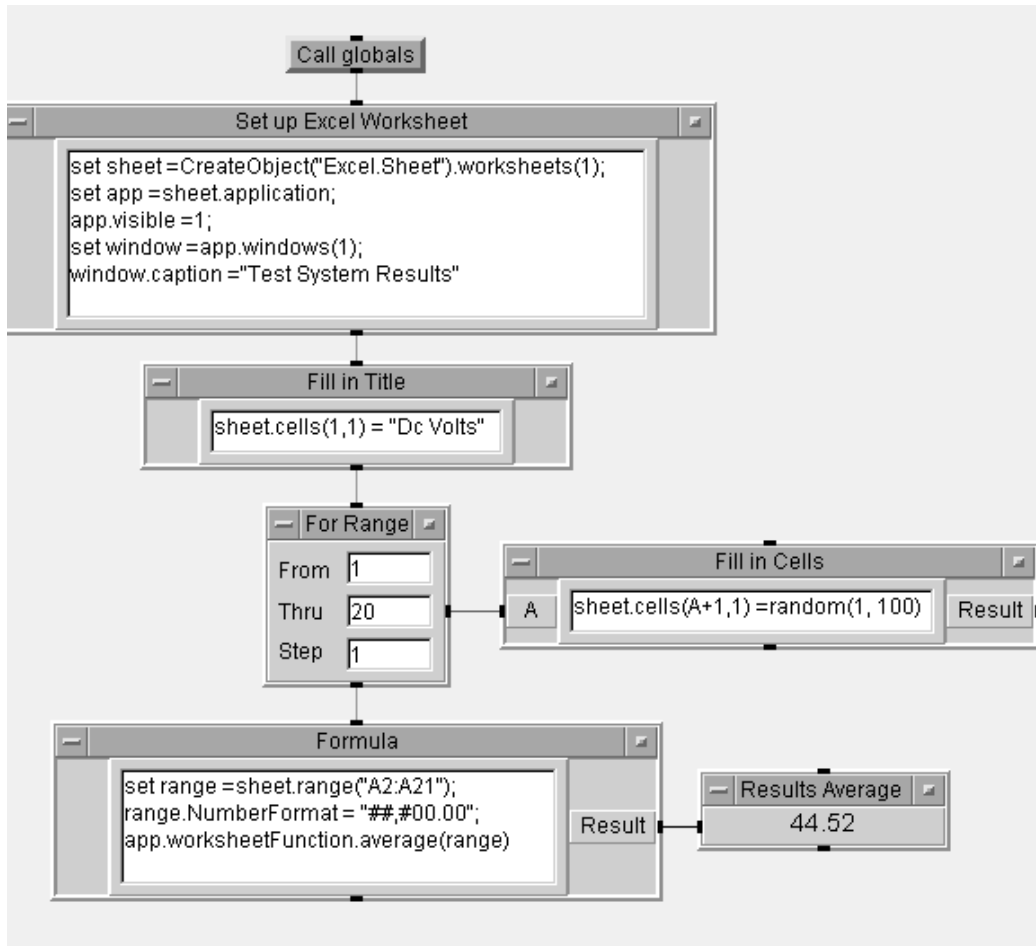

Figure 9.5. The complete Lab 9.1 program
24. Get a Formula Object; delete its input terminal; change its formula entries (3) as indicated in Figure 9.5.
26. Configure and connect all objects exactly as shown in Figure 9.5.